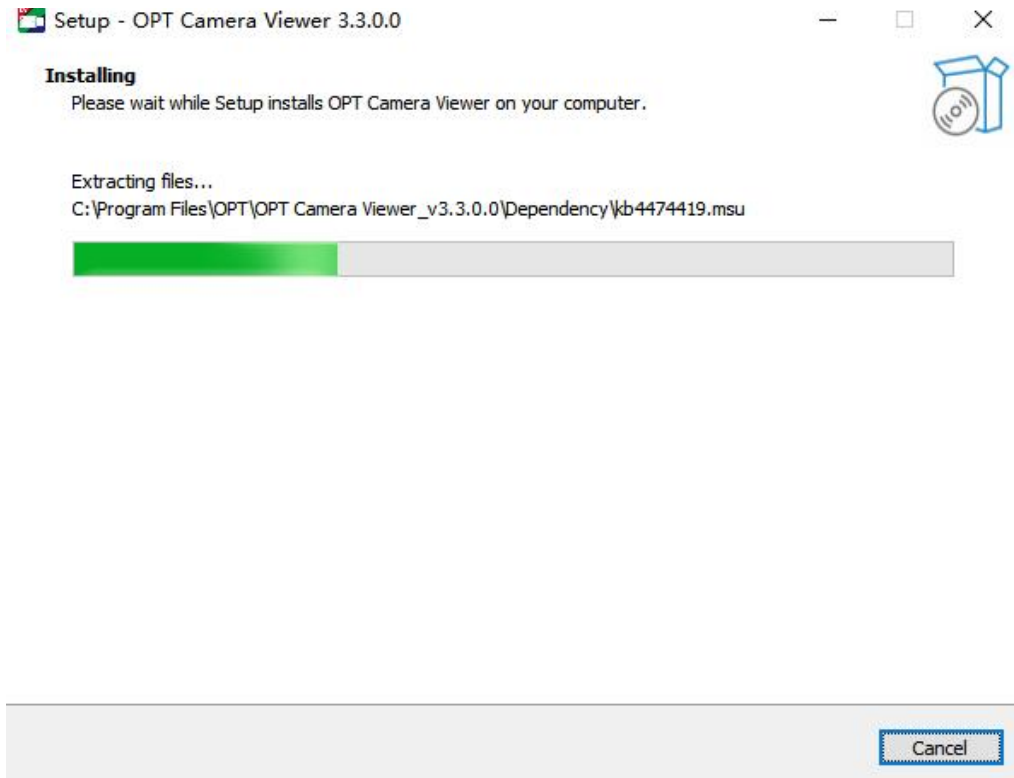

Figure 3-5 Program Installation Progress Window
6. Wait for the installation progress of the program, as shown in Figure 3-5.